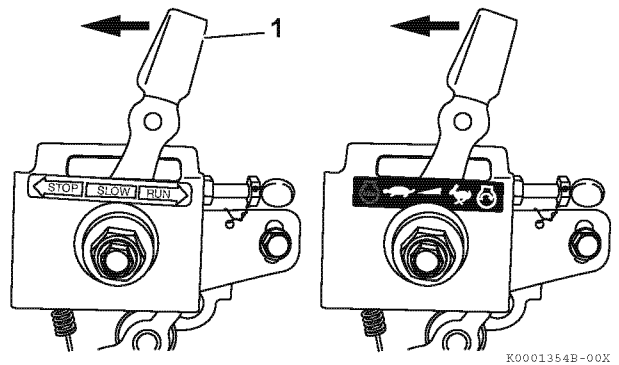

Figure 16
1. If your engine speed control is similar to **Figure 16** slide the engine speed control lever (1, **Figure 16**) in the direction shown to adjust the engine speed.